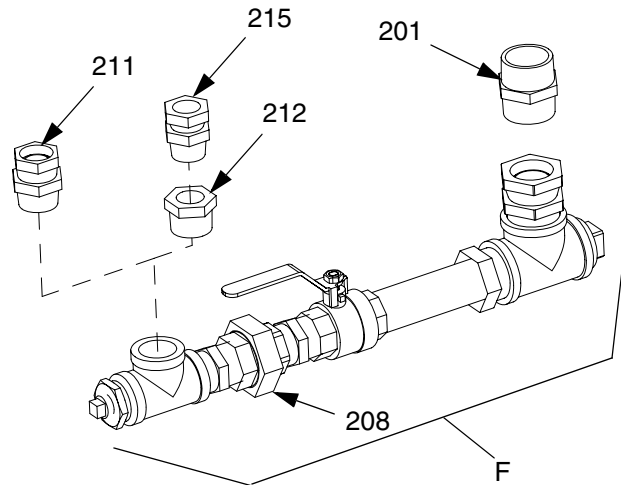

FIG. 7: Connect Fluid Outlet Assembly to Lower
4. Loosen union (208).
5. Connect swivel fitting (211 or 215) to pump foot valve. See FIG. 7.
6. Apply pipe sealant paste to one end of nipple threads (201) and install that end in bottom of hopper (D).
- Tighten union (208) and ensure fluid outlet assembly is aligned. See FIG. 7 on page 10.